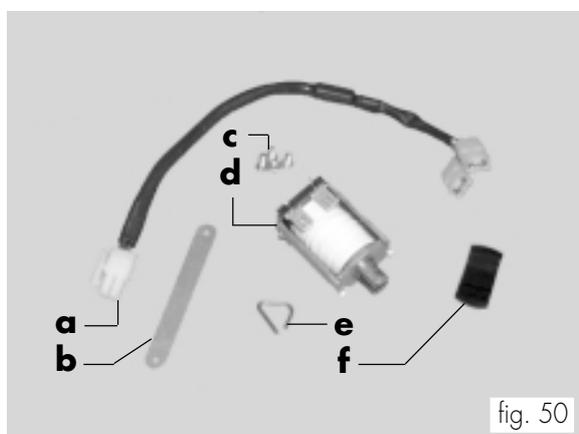
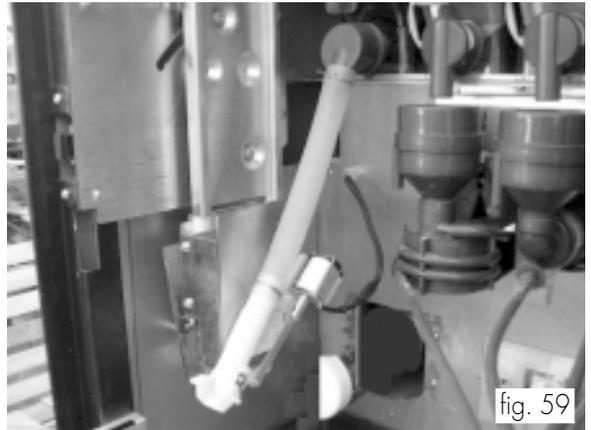

fig. 50
fig. 55
Assembly kit (fig. 50)
- Install the connecting rod (ref. b, fig. 50) on the electromagnet piston (ref. d, fig. 50) by means of the spring (ref. e, fig. 50) to obtain the unit shown in fig. 53.
- Apply the sticker (ref. f, fig. 50) to the electromagnet (fig. 54) in order to seal the hole located on the machine housing.
- Assemble this unit (see fig. 54) on the sugar channel (fig. 55) by means of two M3x6 screws (ref. c, fig. 50).
- Fasten the connecting rod on the sugar door (fig. 56) by means of an M3x8 screw and an M3 nut (ref. c, fig. 50).
- Couple the connector (ref. a, fig. 50) with the electromagnet by means of the fastons. Insert the other end in the connection located on the mounting plate (fig. 58).